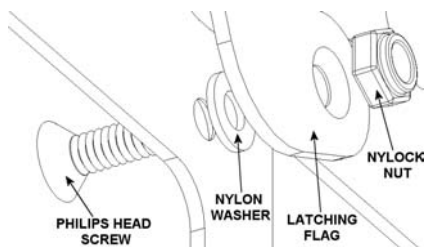
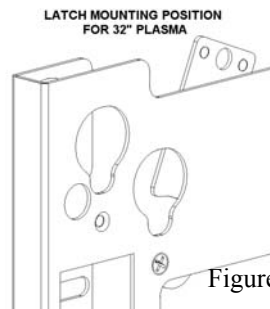
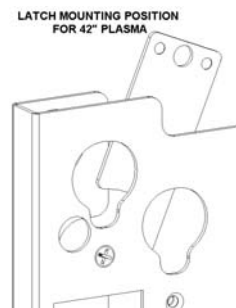
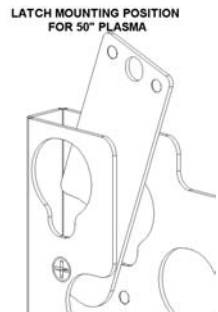

Figure 3
Figure 4
Figure 5
Figure 6
1. Attach latching flags to mount, using the proper position on the mount (see Figure 3, Figure 4, Figure 5, & Figure 6), with the latching flag on the inside of the mount. Tighten Nylock nut until friction is sufficient to hold the latch in place.